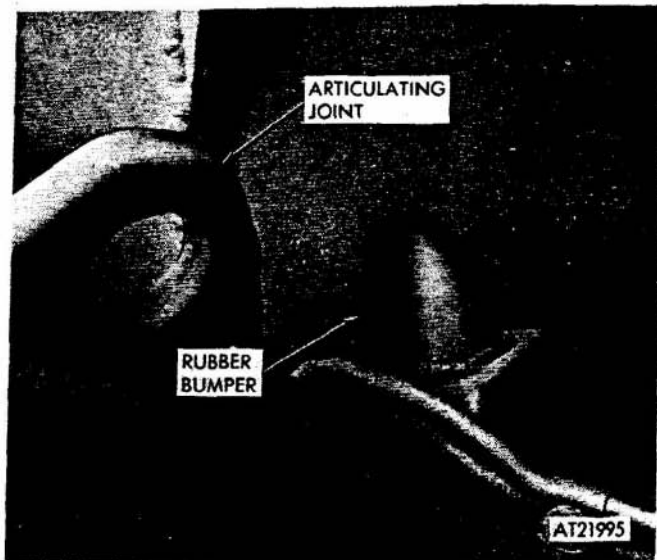

Figure 2-343. Articulating joint rubber bumper, removal and installation.
a. *Removal.* Remove rubber bumper by unscrewing rubber bumper from articulating joint and removing lock washer (fig 2-343).
b. *Installation.* Install lock washer on bumper stud and screw into articulating joint (fig 2-343).